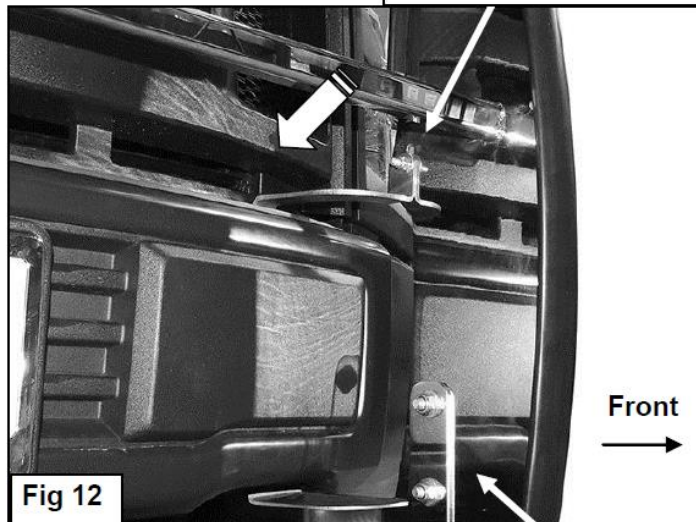

Fig 12
- With assistance, place the Grille Guard up to the outside of the Frame Brackets. Attach the Grille Guard to the Brackets with (4) 10mm x 30mm Hex Bolts, (8) 10mm Flat Washers and (4) 10mm Nylon Lock Nuts, (**Figure 12**). Snug but do not tighten hardware at this time.
- Line up the driver side Top Bracket with the hole in the upright on the Grille Guard. Attach the Bracket to the Grille Guard with (1) 8mm x 30mm Hex Bolt, (2) 8mm Flat Washers, (1) 8mm Nylon Lock Nut, (**Figure 12**).